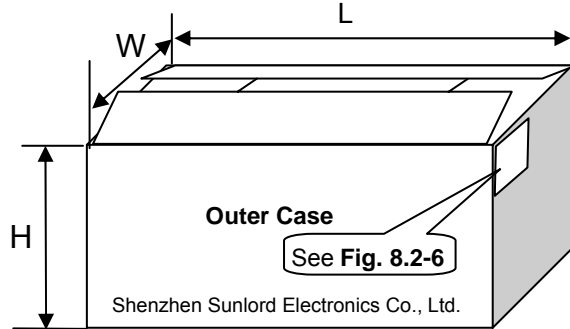

Fig. 8.2-5
3. Marking on outer case (see Fig.8.2-5~6):